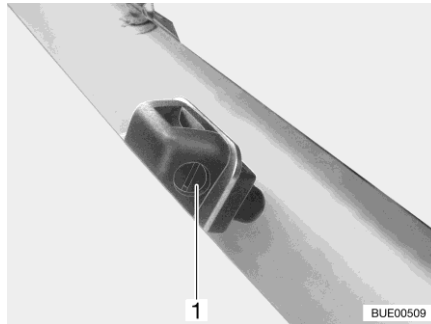

Fig. 43 Washer nozzles
- Adjusting: ■ Use a suitable screwdriver to turn the adjusting screw (Fig. 43,1) until you reach the desired position.